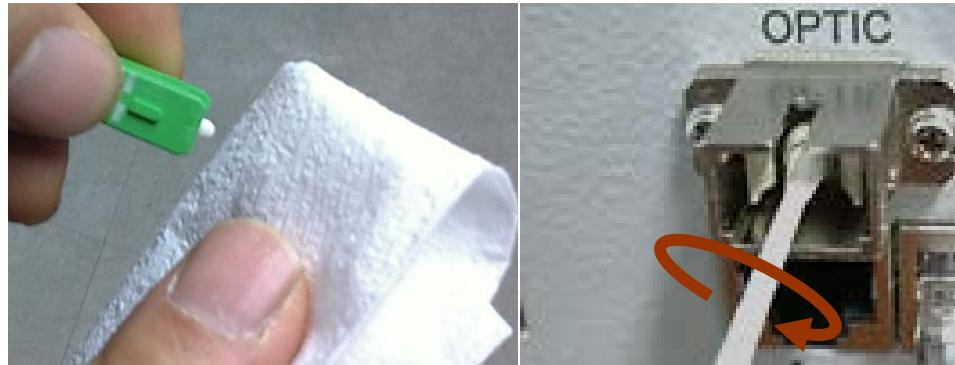

Figure 6-5 Optic Connector Cleaning (left) and Optic Port Cleaning (right)
- We recommend cleaning optic connector using a dry optical cleaning swab or tissue in a dry environment as needed. We recommend cleaning the optic connectors only if the expected optic loss is higher than the loss reported in the Web-GUI by 1.5dBo. (Figure 6-5)